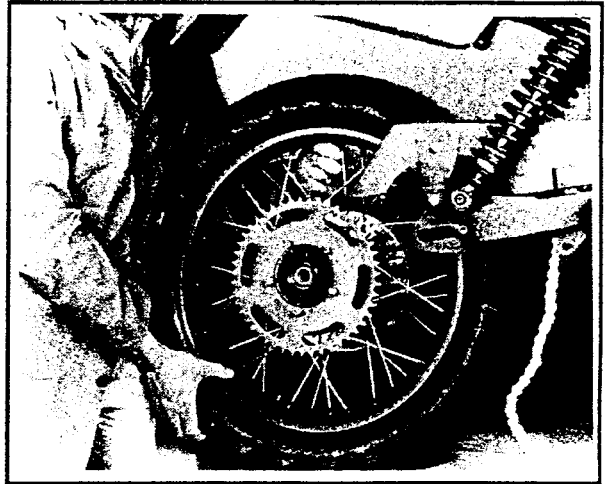

Figure 5-56. Position Wheel and Tire
2. See Figure 5-56. Position rear wheel and tire in swing arm.